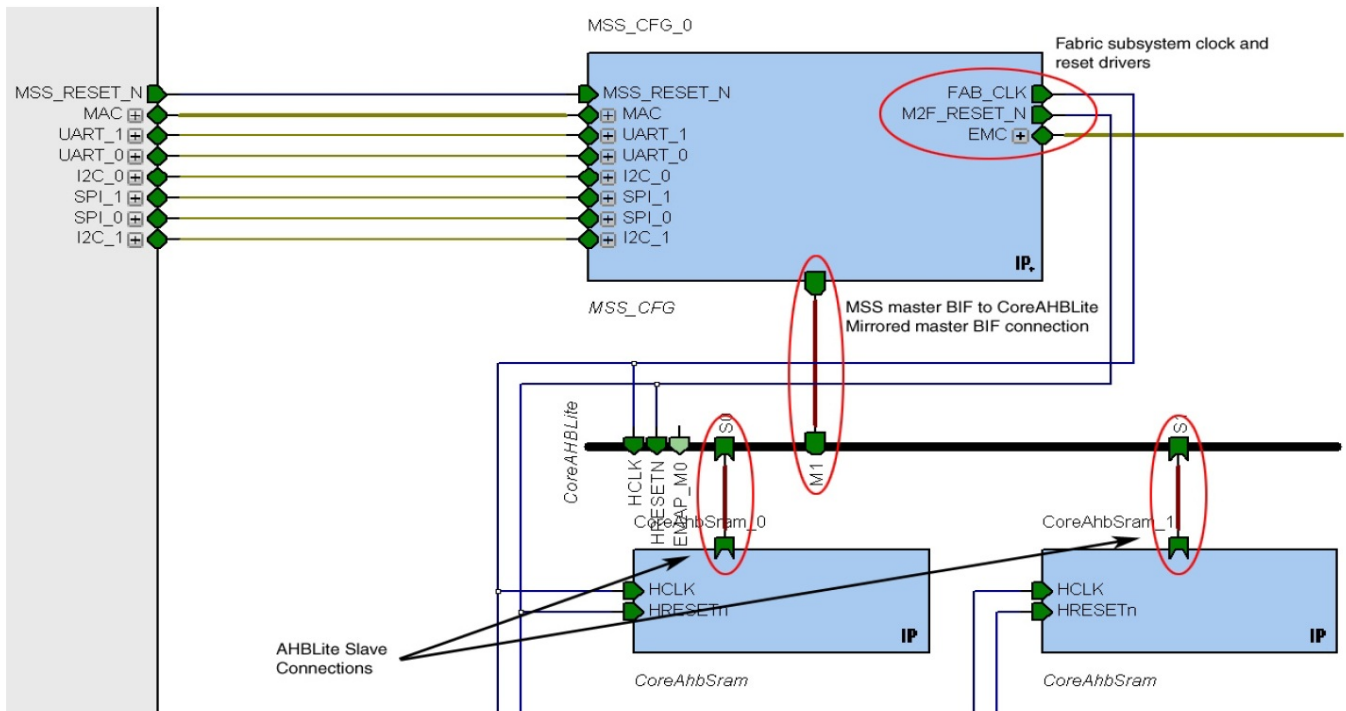

Figure 1-7 · Manual Connections in Subsystem
- Connect the CoreAHBLite mirrored-master BIF M0 or M1 to the MSS Master BIF (as shown in Figure 1-7). Use M1 if you plan to create a multi-master subsystem where you have a master in the fabric that requires the remap feature and thus needs to be connected to M0.
You can see the system memory map by using the SmartDesign Memory Map / Data Sheet feature (from the SmartDesign menu in the Libero IDE Project Manager). For example, here is the memory map generated for the subsystem shown in Figure 1-7 on page 11.